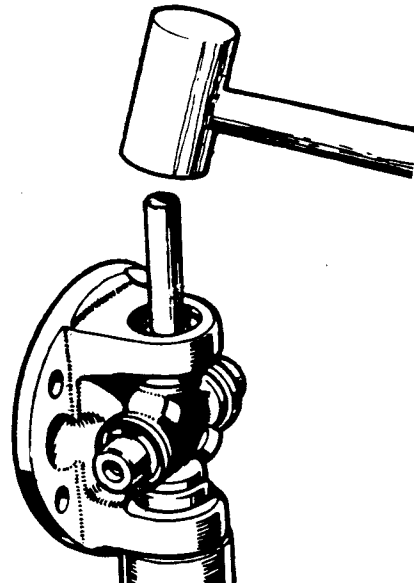

Fig H4.12
- (19) Refer to Fig H4.12. Remove the bearings from flanged yoke.
- (20) Repeat steps (14) to (19) for the splined shaft.